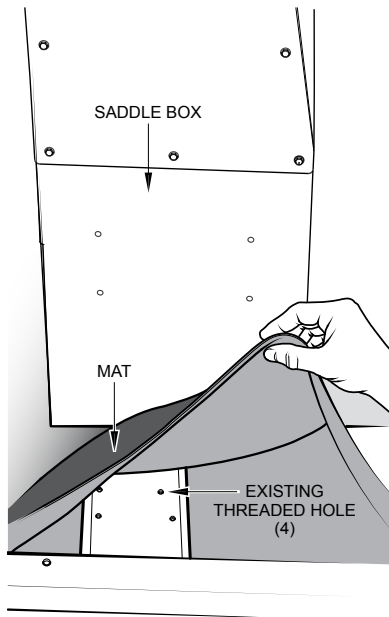

Figure 5. Transformer Support Bracket Threaded Mounting Holes
1. Pull back cabinet floor mat as shown in Figure 5 to expose transformer support bracket (floor) threaded mounting holes.